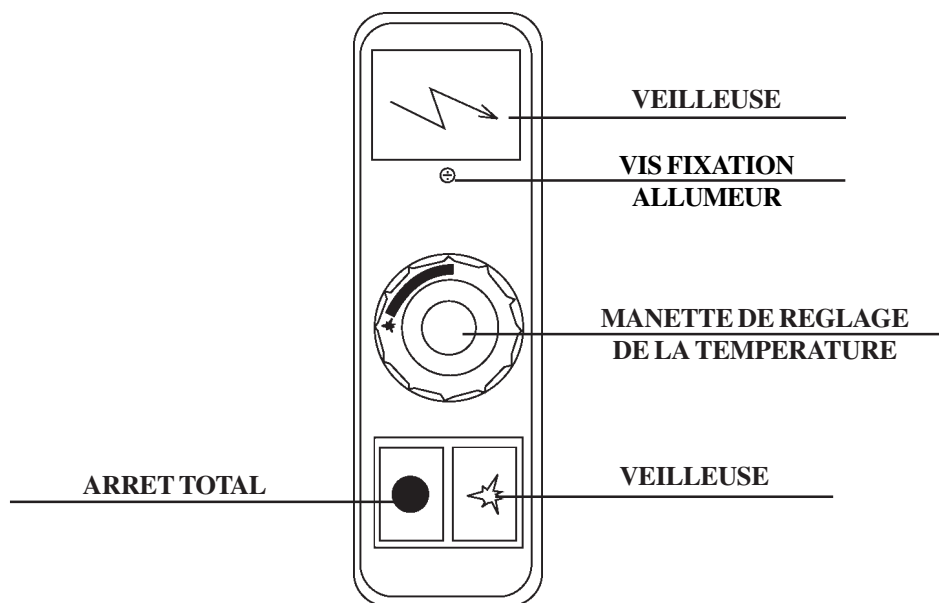

Fig. 9
5.1 ALLUMAGE DU BRULEUR PILOTE (FIG. 9)